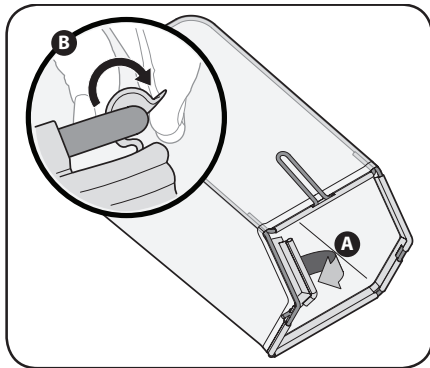

Figure 2-4
- Follow steps below to assemble the grass catcher (if needed). Make certain bag is turned right side out before assembling (warning label will be on the outside). See Figure 2-4.